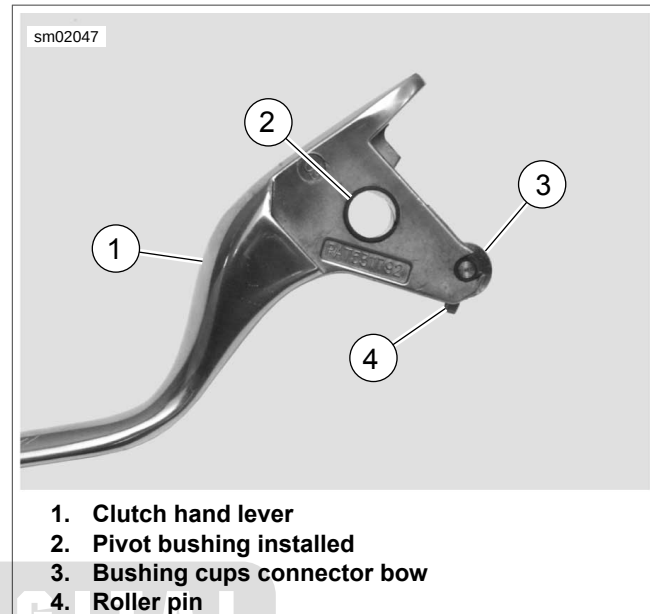

Figure 2-27. Clutch Hand Lever
1. See Figure 2-27. Slide bushing cups (3) onto pins of roller with cup flanges against roller.